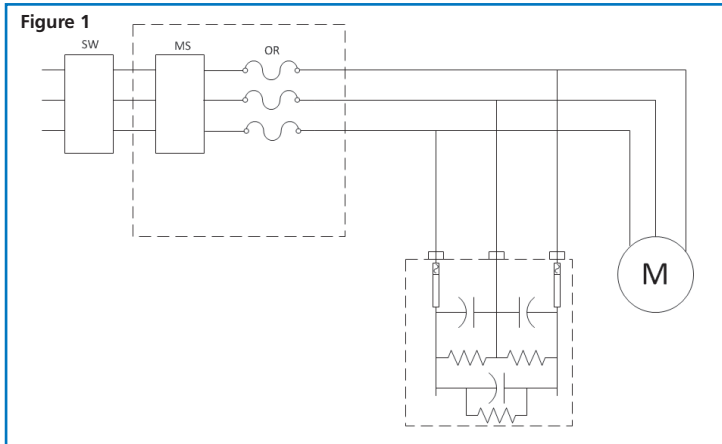

Figure 1
Capacitors may be connected to each motor and switched with it, as in **Figures 1 and 2**, in which case they are energized only when the motor is in operation, or they may be permanently connected to the line ahead of motor starters as in **Figure 3**.
1. The most economical capacitor location is directly across the terminals of larger motors thereby eliminating the cost of a separate switch. The capacitor ratings may be selected directly from **Table 2** or **Table 3**, which require knowing only the type, horsepower rating, and speed of the motor. Reference to **Figure 1** or **2** indicates the recommended location for new and existing motors. These capacitor ratings normally correct the motor no-load power factor to unity which in turn generally results in a full-load power factor of 94%-96%.